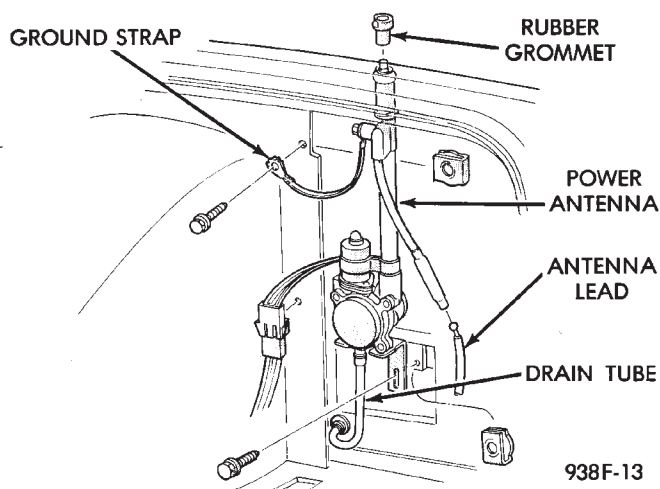

Fig. 9 Power Antenna
(1) Disconnect battery negative cable.
(2) Inside trunk, pull trunk liner aside.
(3) Unplug antenna lead from pigtail connector, disconnect wire connector, remove drain tube from grommet (Fig. 9).
(4) Remove screws attaching ground strap and antenna brace.
(5) Pull antenna body down through the rubber grommet.
(6) For installation reverse above procedures. Check that the grommet locating tab is in-line with the slot in the body before installing antenna. Tighten antenna bracket ground strap screws to 4 N•m (40 in. lbs.) torque.